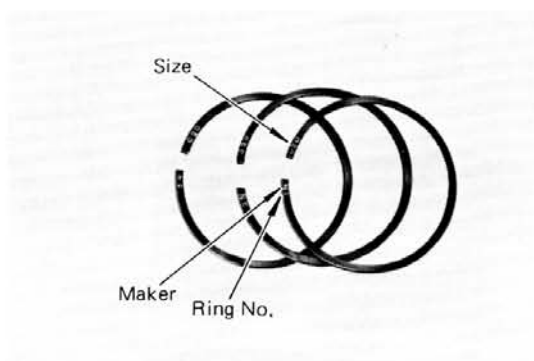

Fig. 1-61 Piston Rings
2. Install the piston rings onto the piston. The piston rings are provided with the marks as shown in figure 1-61. When installing the rings, face the marks upward and install the rings so that the ring numbers will be in order from the piston head side.